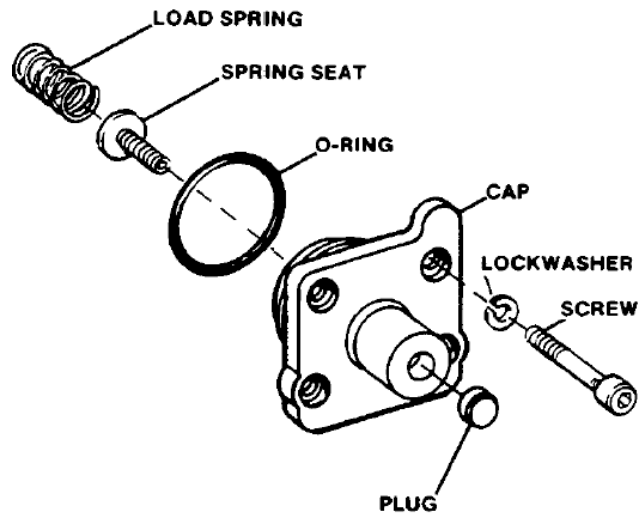

Figure 5-49. Lube Oil Shutdown Cap
25. Install load spring, spring seat, O-ring, and end cap. Secure with lockwashers and screws (Figure 5-49).